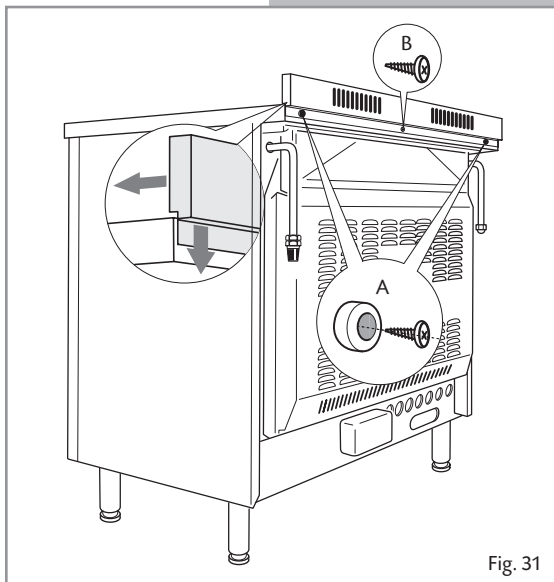

Fig. 31
- Assemble the backguard as shown in figure 31 and fix it by screwing the central screw "B" and the spacers "A".